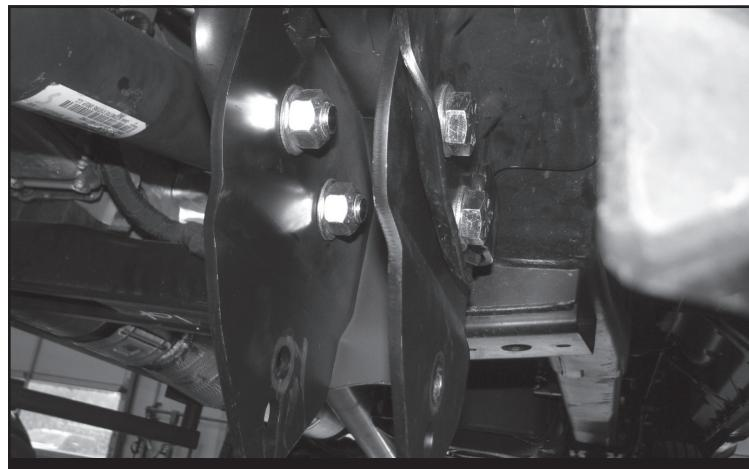

FIGURE 13 - STEP 18
18. Install FT30651 (radius arm drop brackets). Place the brackets into the factory radius arm pockets. Attach the bracket to the factory bracket using the supplied 3/4" x 1-1/2" bolts, nuts and washers through the original holes in the frame. Torque bolts to 450 ft-lbs. SEE FIGURE 13